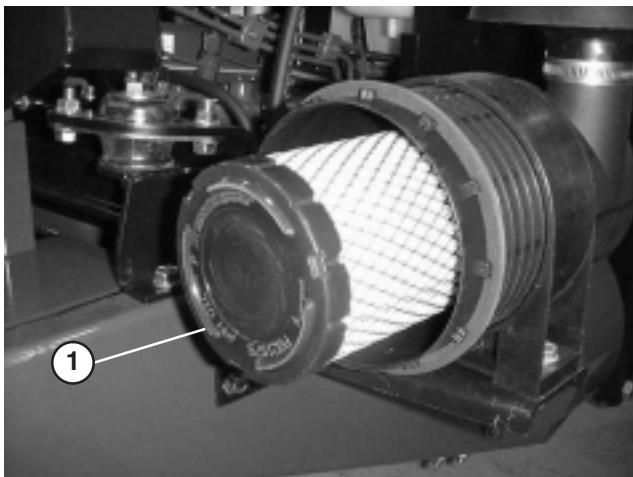

Figure 45
2. Gently slide primary filter (Fig. 45) out of air cleaner body to reduce the amount of dust dislodged. Avoid knocking filter against air cleaner body.